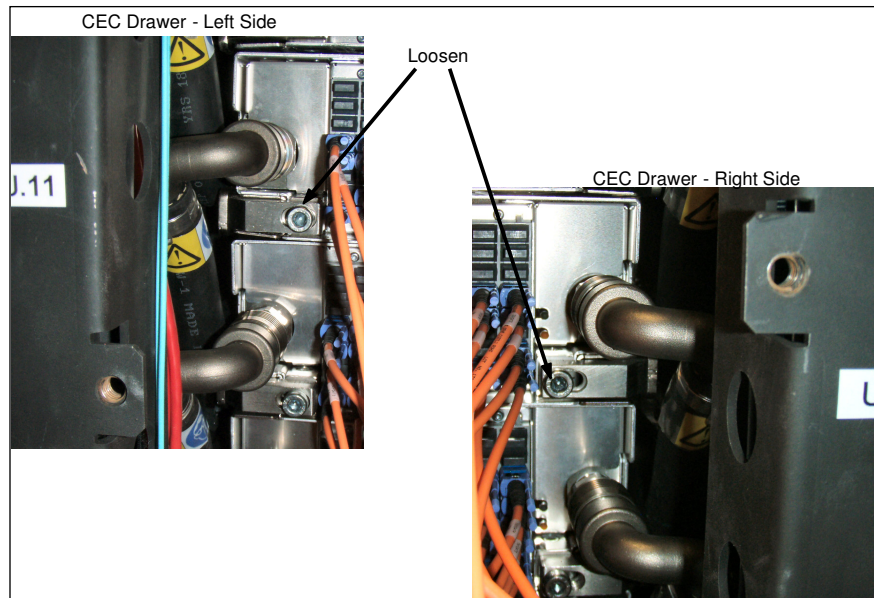

Figure 20 Rear CEC Rail mounting bracket
STEP 32 Loosen the rear CEC Rail mounting bracket captive screws using the tools listed below(see Figure 20):